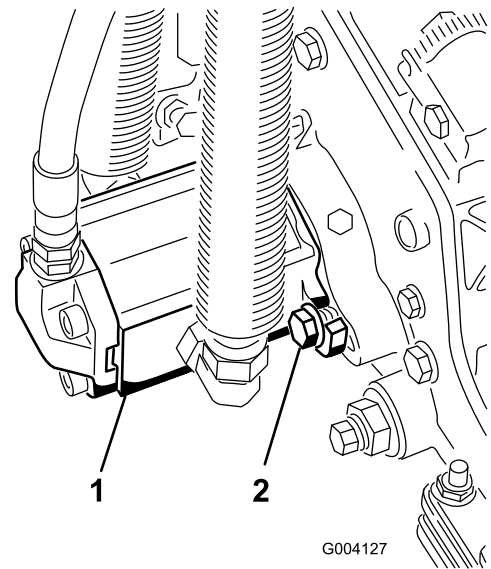

Figure 31
- Install the motor by rotating it clockwise so that the motor flanges clear the bolts (Figure 31).